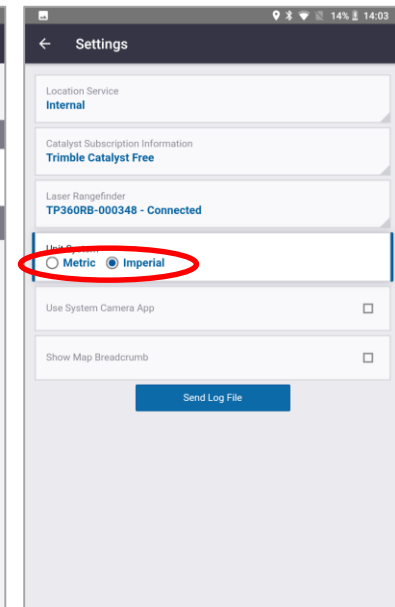

Figure 4
4. Confirm the laser selection and choose the **Units** that match the laser (Figure 4)